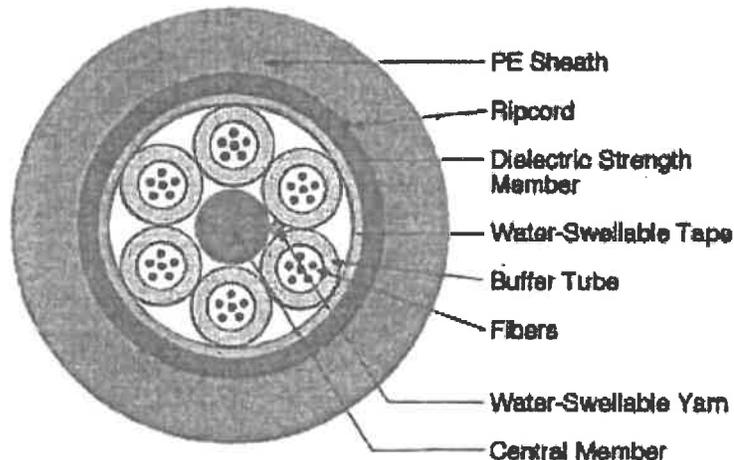

Figure 1
- 2.8 The cable shall be sheathed with medium density polyethylene. The minimum nominal jacket thickness shall be 1.3mm. The polyethylene shall contain carbon black to provide ultraviolet light protection and shall not promote the growth of fungus. The cable shall contain at least one ripcord under the sheath for easy sheath removal. The sheath material shall be made in accordance with ASTM D1248, Type II, Class C and Grades J4, E7 and ES. The sheath shall be free of holes, splits, and blisters. The sheath shall contain no metal elements and shall be of a consistent thickness. See Figure 1.